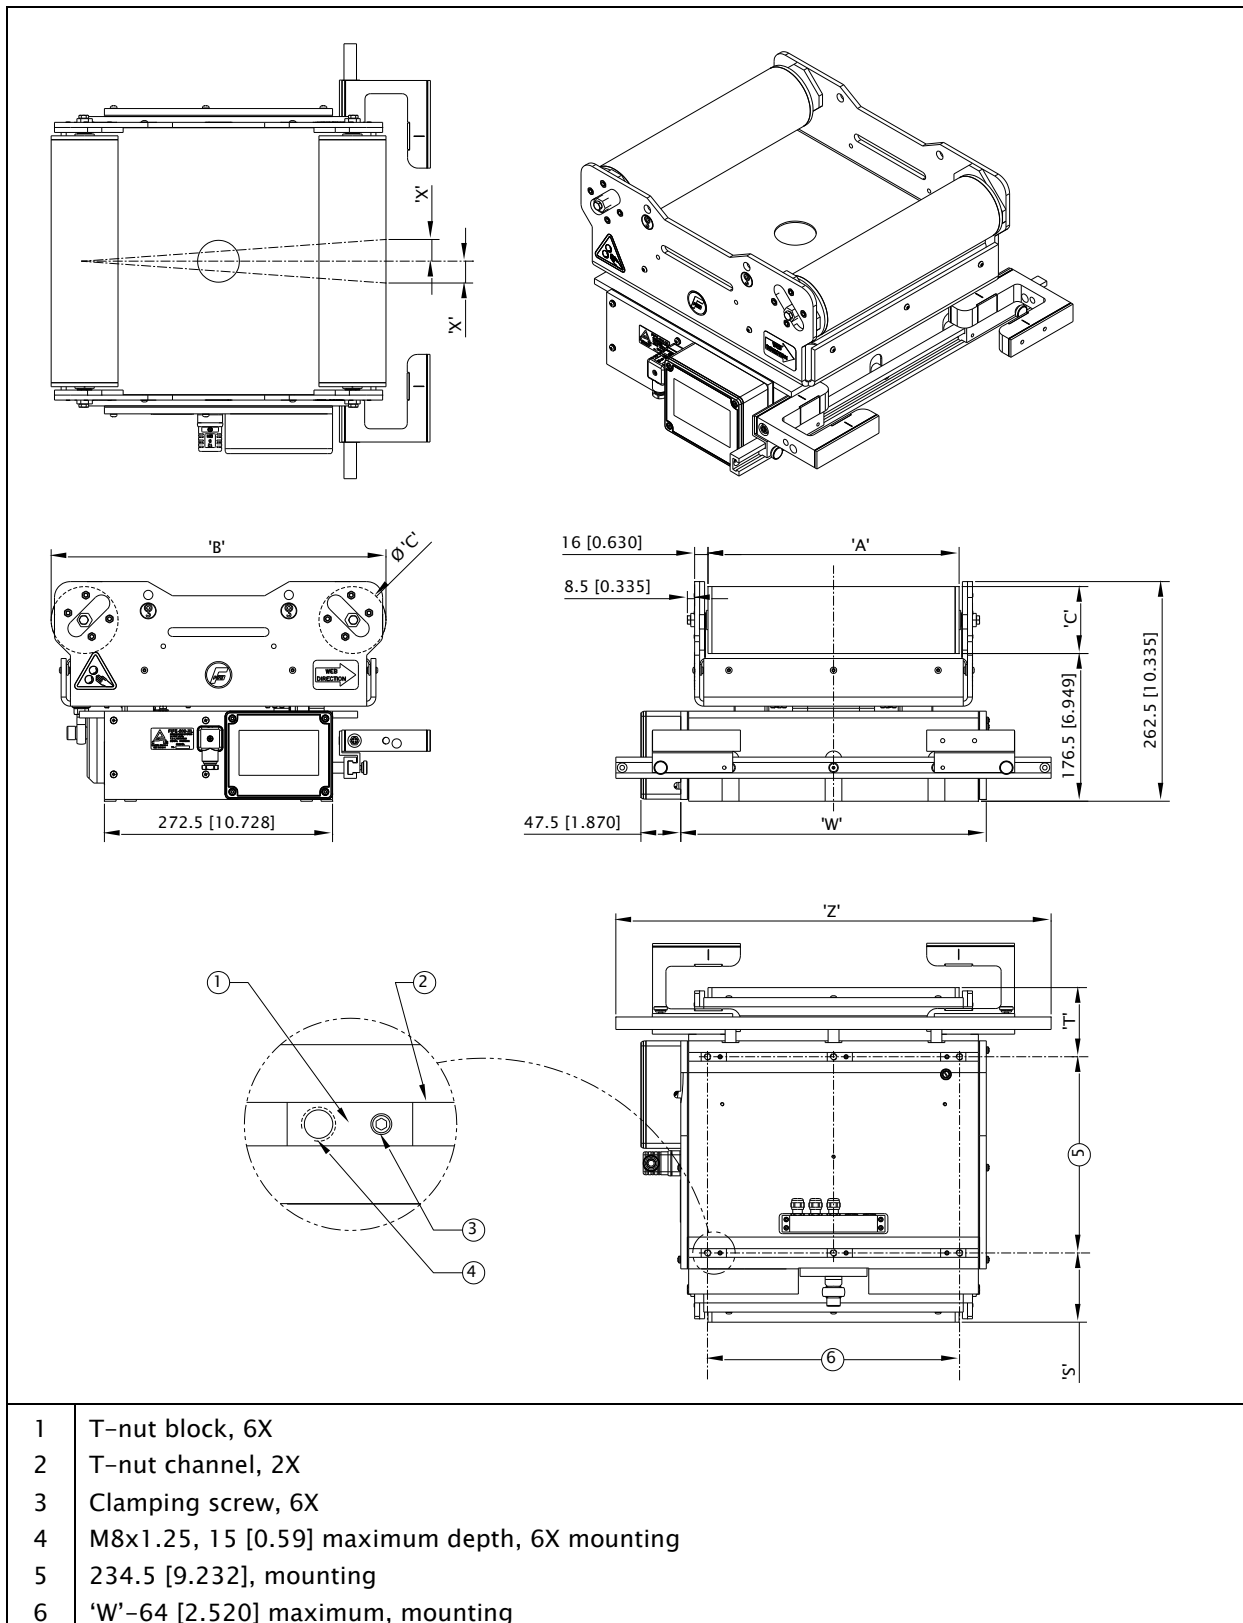

Figure 1. FIFE-500-XL with integrated sensor mounting
- T-nut blocks are delivered in their outermost positions, but are adjustable. To adjust, loosen the clamping screws, adjust the location of the T-nut block(s), then tighten the clamping screws to 3.3 Nm [29 in-lb] of torque after adjustment. See Figure 1.